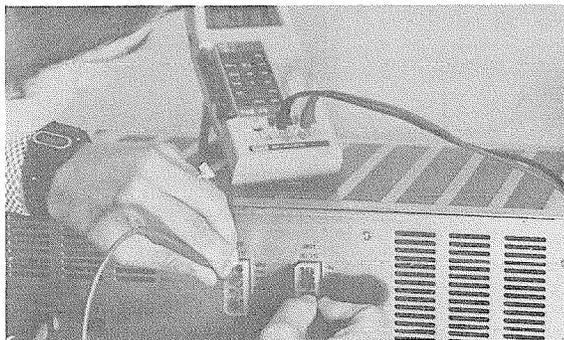

FIGURE 8—VOLTMETER CHECK
- f) The DPSA outputs are checked at the two connectors (J201 and J202) on the rear (Figure 8). Each pin is plainly marked as to what voltage should be found there. Using a digital voltmeter (DVM) adjusted to the appropriate range, measure between the corresponding